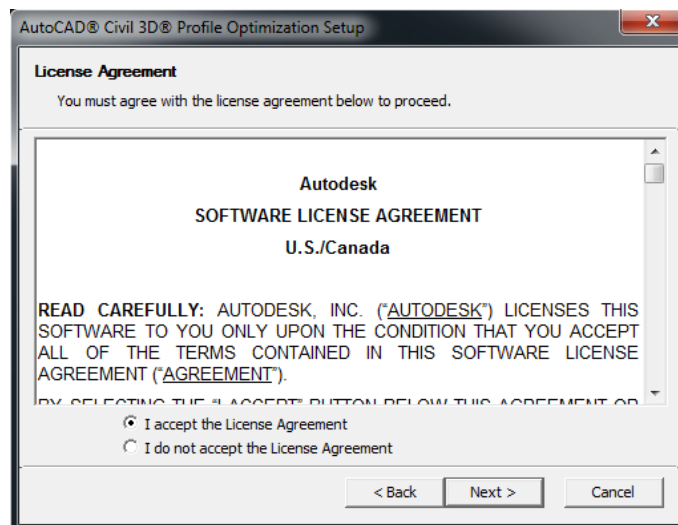

Figure 2: License Agreement
3. If you accept the License Agreement, click Next (see Figure 2).